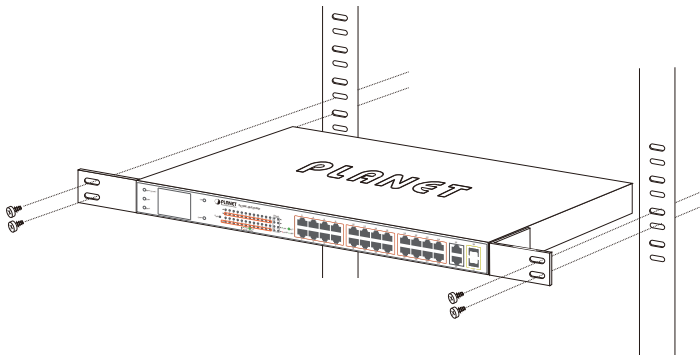

Figure 3-3: Mounting the LCD Switch in a Rack
- Step 5:** After the brackets are attached to the LCD switch, use suitable screws to securely attach the brackets to the rack, as shown in Figure 3-3.